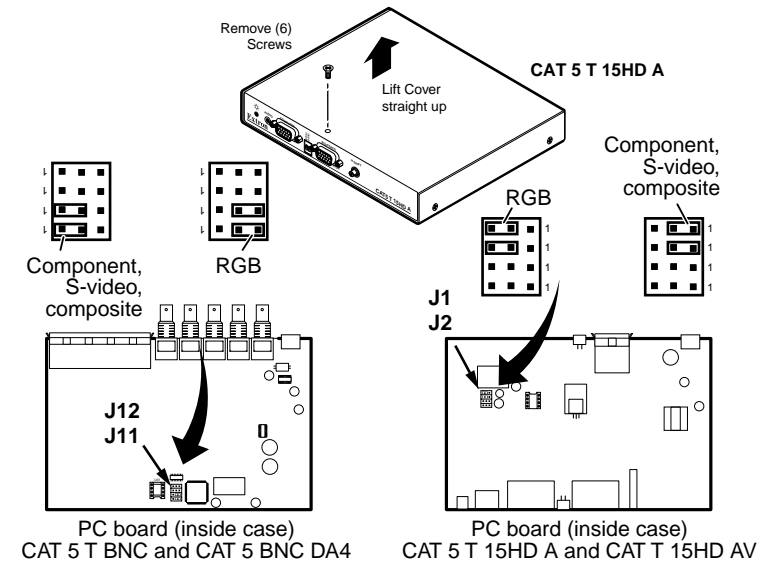

Figure 2-1 — Jumper configuration
1. Remove the two screws on each side and the screw on top of the cover (figure 2-1). Lift the cover straight up.